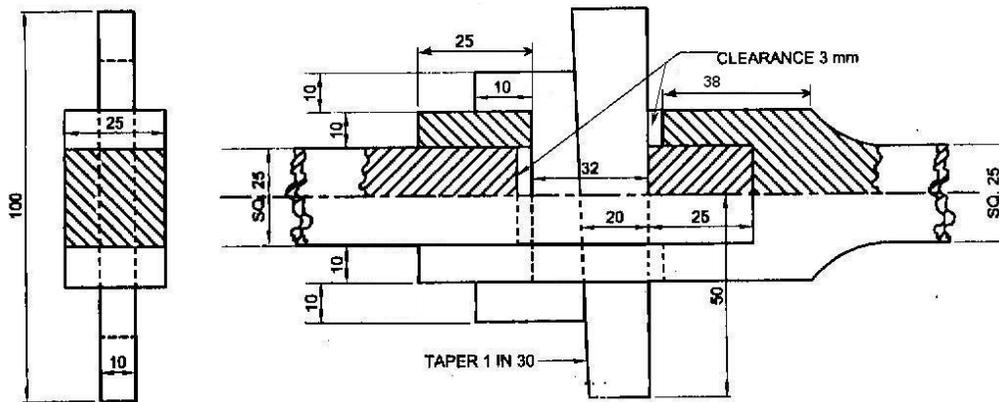

Figure-4
- Q.4** Figure-4 shows Assembly of Strap joint with Gib and Cotter. Draw two views of each part. Give necessary dimensions. Prepare part list. **14**